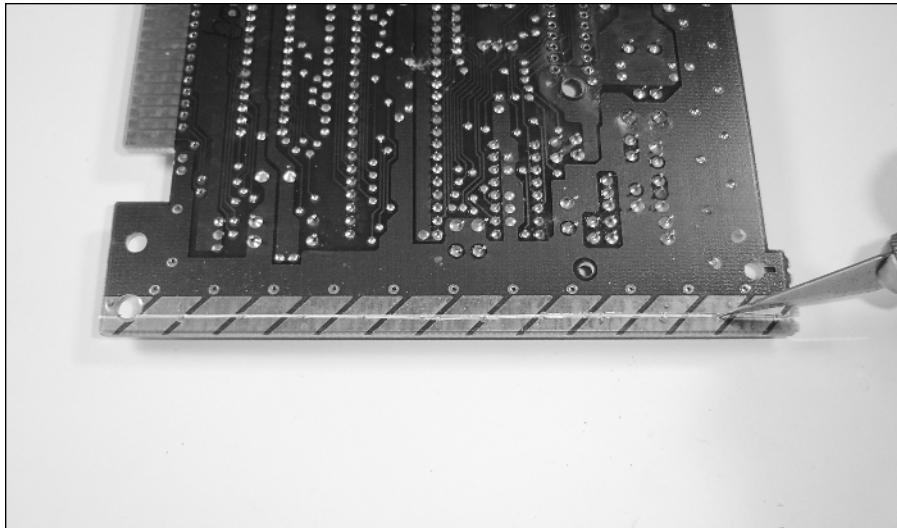

FIGURE 8-4: Where to slice off part of the NES motherboard.
2. A thin strip of the main motherboard itself needs to go as well. Use your X-Acto knife to slice several deep grooves along the line of small holes seen in Figure 8-4. You can then snap this piece off the NES board. The removed portion should measure about $1/8'' \times 4\text{-}3/4''$.